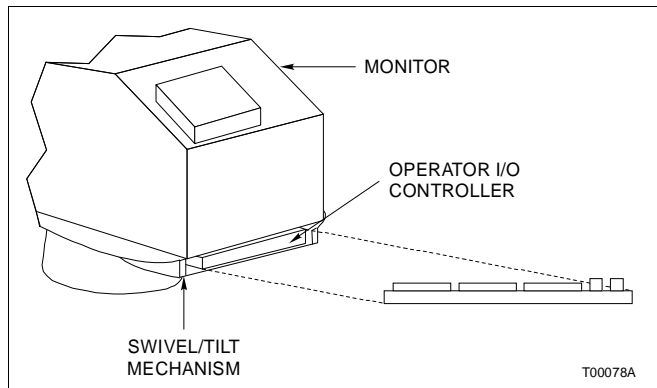

Figure PR66-2. Operator I/O Controller Replacement
- 5. Gently lift up and pull out on the operator I/O controller to slide it out of the mounting rails in the swivel/tilt mechanism (Fig. PR66-2).